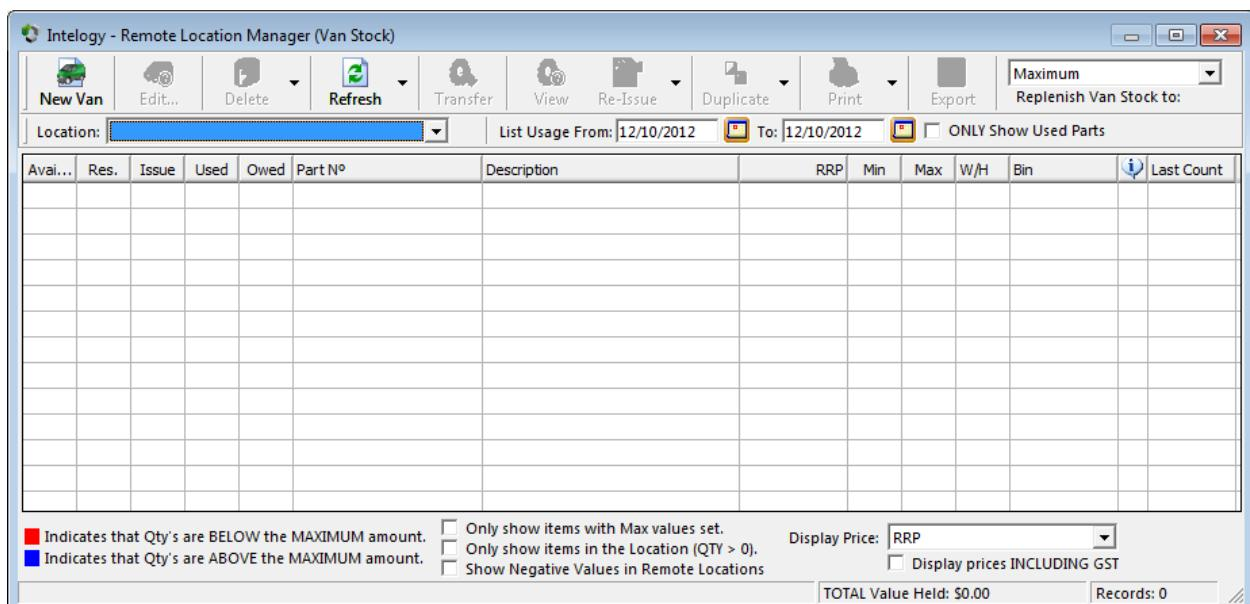

Figure 14.14 - Van or Remote Location Manager
1. Press the ‘Add Van’ button located on the tool bar. This displays the ‘Add Van’ screen, refer to figure 14.14.